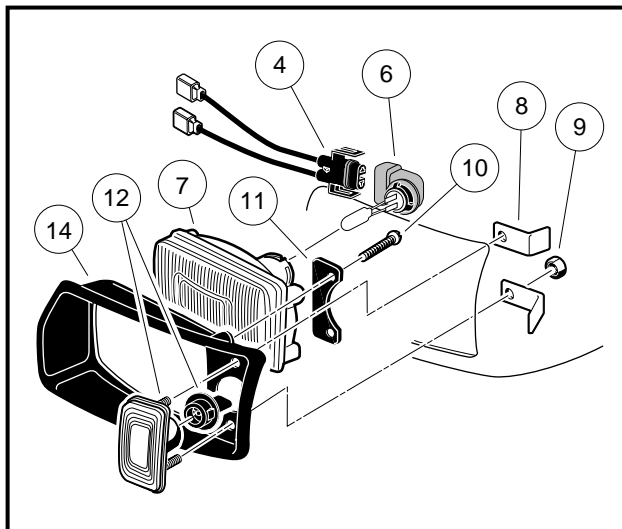

Figure 12-30 Headlight Assembly
2. From the front of vehicle, reach under cowl and turn the wire harness/halogen bulb assembly, (4 and 6), clockwise one-quarter turn (**Figure 12-30, Page 12-28**).
3. Remove the wire harness/halogen bulb assembly (4 and 6) from the headlight lens (7).
4. Lift the retaining tabs on the connector (4) and remove halogen bulb assembly (6).
1. Connect wire harness (4) to the halogen bulb assembly (6). The retaining tab should lock onto the halogen bulb assembly (**Figure 12-30, Page 12-28**).
2. From the front of vehicle, reach under cowl and insert wire harness/halogen bulb assembly (4 and 6), into the headlight lens (7).